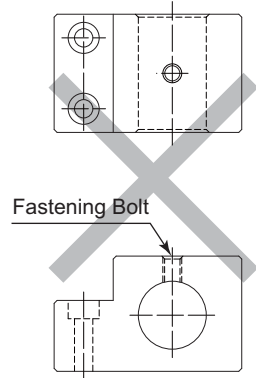

Fig. 17
**Do not allow set screws to come directly in contact with the spindle body as shown in Fig. 17, as this will result in damage to the spindle housing and internal its components.**